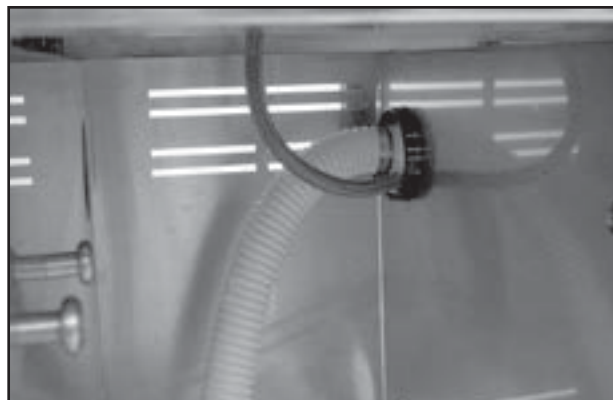

Fig. 49
10. Feed the water supply hose through the center divider hole, down to the bottom opening of the cart (Fig. 49). Place the end of the water supply hose in the snap-lock clip and lock it in place (Fig. 50)